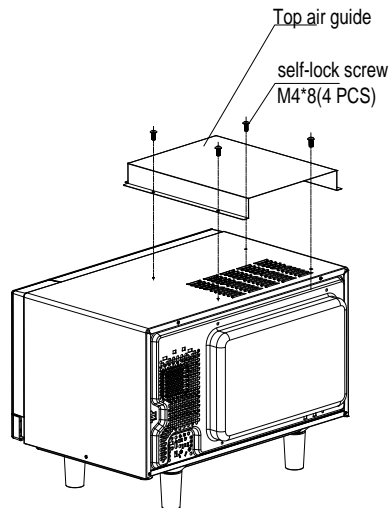

Fig 2
b) Installation of top air guide, as shown in Fig.2.